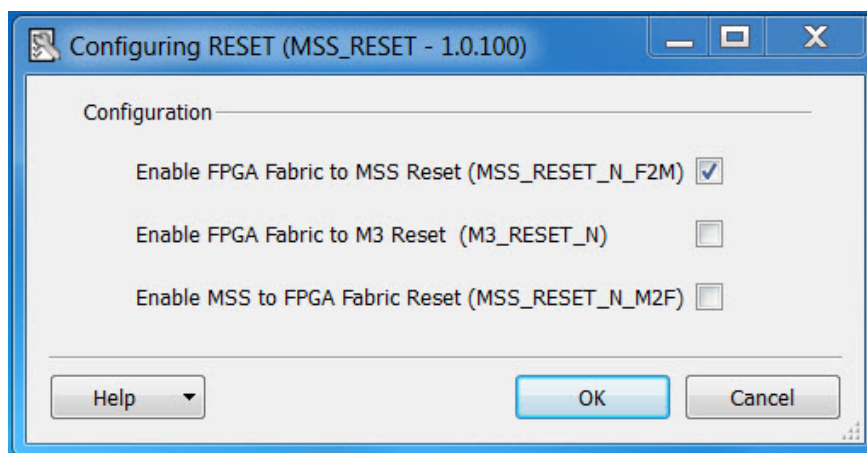

Figure 2-8 • Reset Configurator
9. Check **Enable FPGA Fabric to MSS Reset (MSS_RESET_N_F2M)**. Uncheck the other items (Figure 2-8).